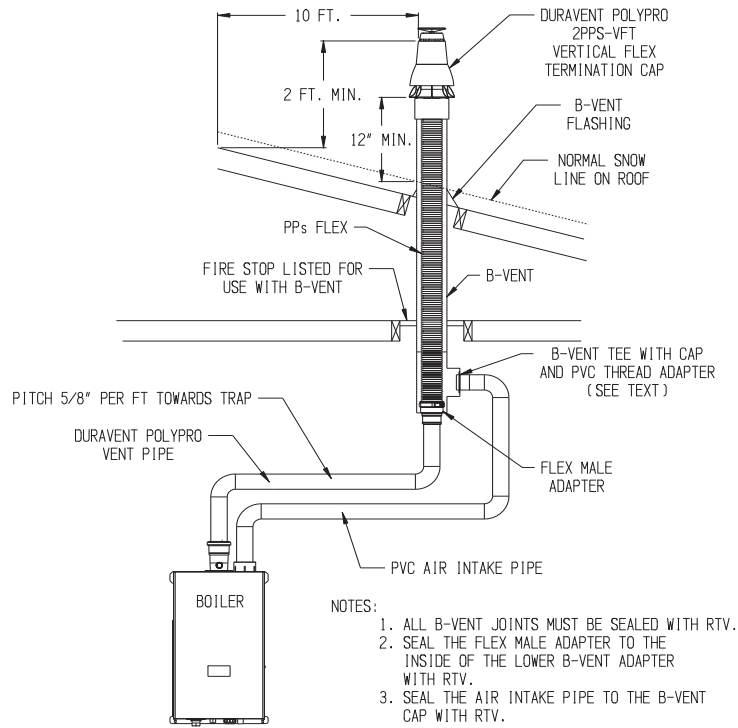

FIGURE 7.19: DURAVENT POLYPRO B-VENT AIR CHASE SYSTEM (VENT OPTIONS #18 & 19)
3. Requirements for B-Vent Air Chase Options – Observe the following additional requirements when using an abandoned B-vent chimney as an air chase as described in Options #18-21. Also refer to Figures 7.19 & 7.20.
*Example: A 100MBH model is to be installed as using Vent Option 18 as shown in Figure 7.19. The following components are used:*